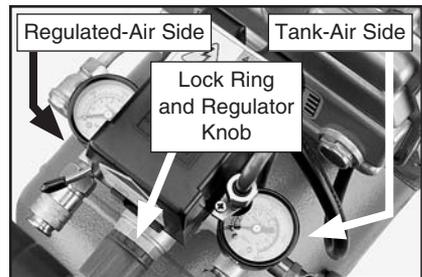

Figure 7. Regulator controls.
1. Adjust the regulator knob, shown in **Figure 7**, to set the PSI that will be delivered to your tool. Turn the knob clockwise to increase the pressure or counterclockwise to decrease the pressure.
2. Rotate the lock ring shown in **Figure 7** against the bottom of the air regulator knob to prevent compressor vibration from changing the knob position and air pressure setting.